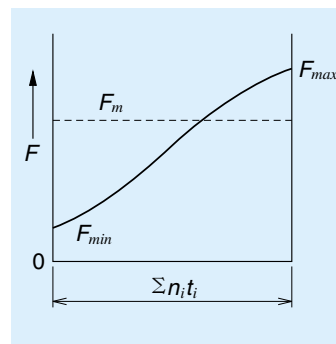

Fig. II-5-2 Linear load change
2. When the rotational speed is constant, and the load changes linearly (Fig. II-5-2)